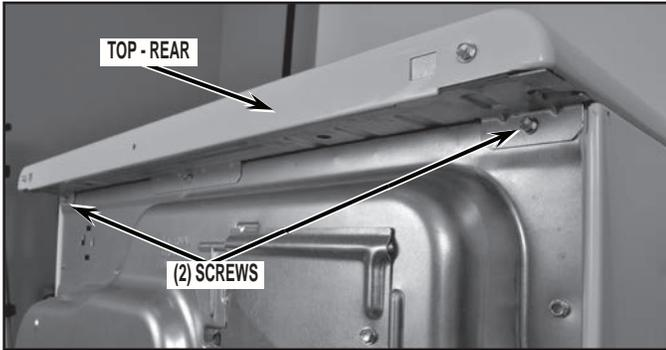

FIGURE 1
4. Remove dryer top by first removing the two (2) screws from the rear of the dryer. See *Figure 1*.